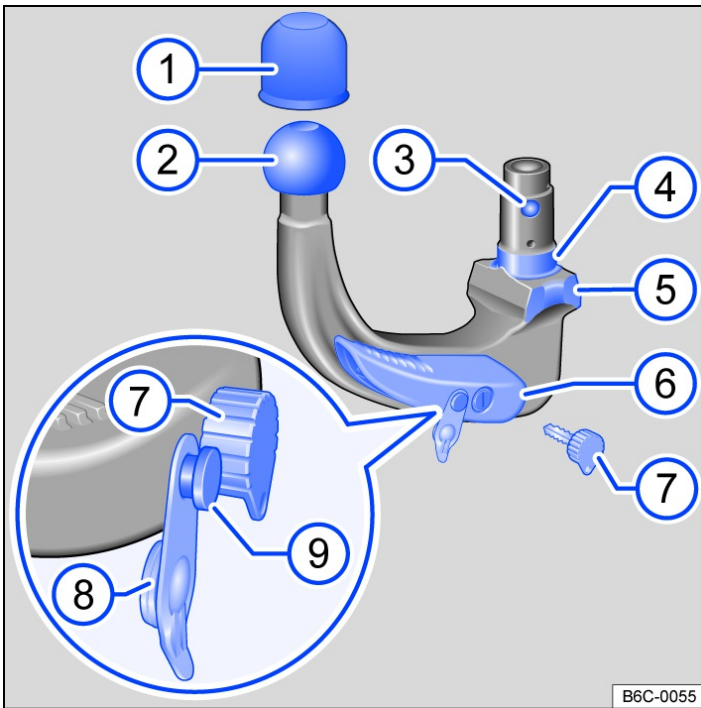

Fig. 1 Overview: removable ball head.
### Key to Fig. 1
- Check to ensure that the mounting, locking lever → Fig. 1 ⑥, shank ④ and the retaining balls ③ of the ball head are all clean and not damaged → !. Clean if necessary.